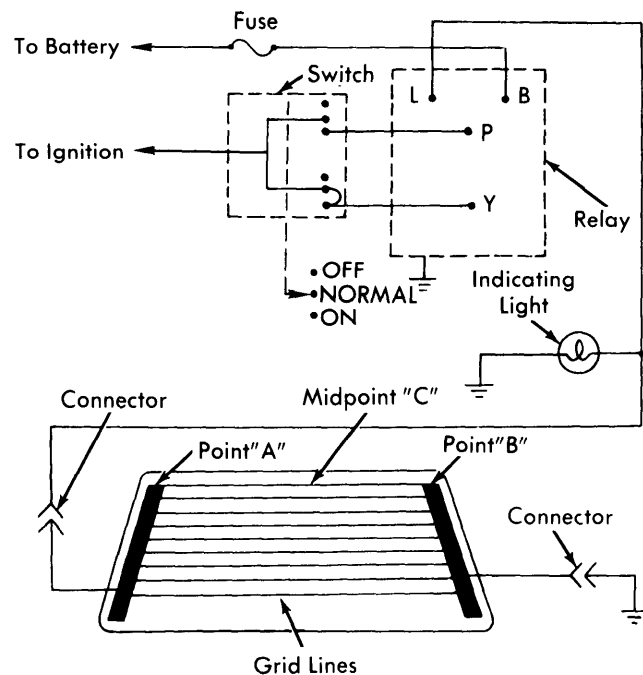

Fig. 2 Chrysler Heated Rear Window Wiring Diagram
4) If system still does not operate, check leads and grid lines at rear window. Turn ignition and control switches on, attach a voltmeter between points "A" and "B" (see Fig. 2). Voltage reading should be 10-14 volts, if lower, check ground connections. With voltmeter connected at "B", measure grid voltages at midpoint "C". Voltage should be approximately six volts, a reading of zero volts indicates a break between point "A" and midpoint "C". A reading of 12-13 volts indicates a break between midpoint "C" and "B".